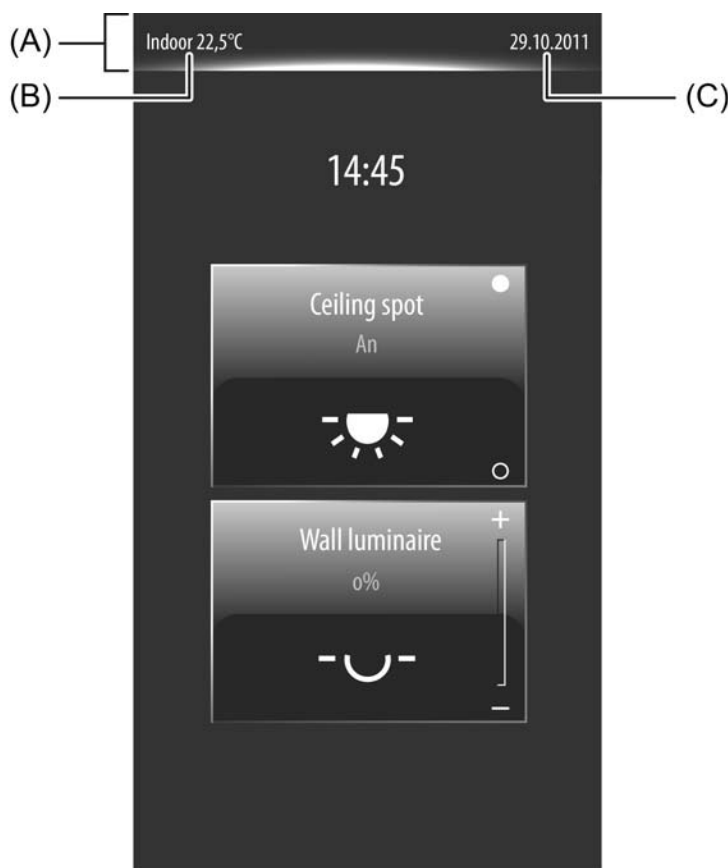

Figure 50: Example of a status line with indoor temperature and date display
In each display, a status line is displayed at the top edge of the monitor (figure 50). This status line (A) stands out visually from the rest of the display by means of a graphic horizon. The status line can contain different display information and operating elements.